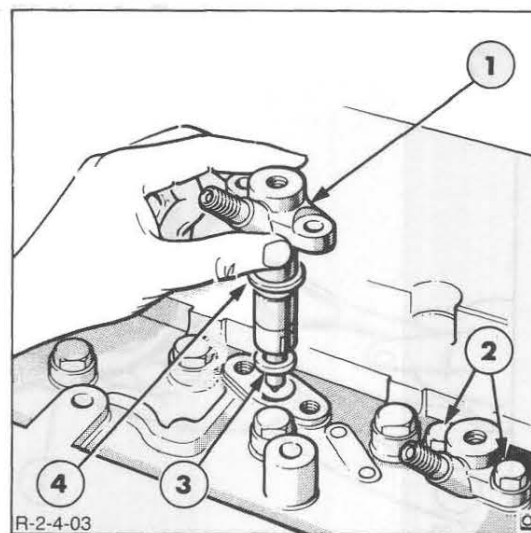

Figure 22
- Install the injectors with new seat washers and cork seals, Figure 22.